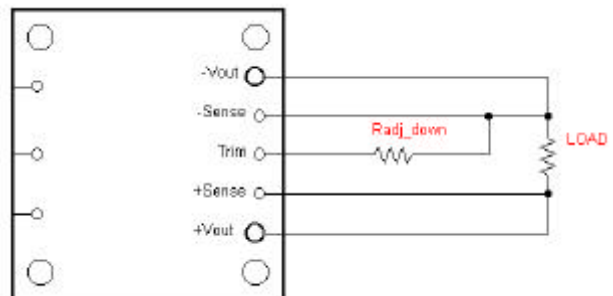

Figure 4. Radj_down Setup to decrease Output Voltage
To adjust V_o to a lower value, please refer to Figure 4. An external resistor, **Radj_down** should be connected between the Trim Pin and the -Sense Pin. From Equation (2), Radj_down resistor can be determined for the required output voltage change.